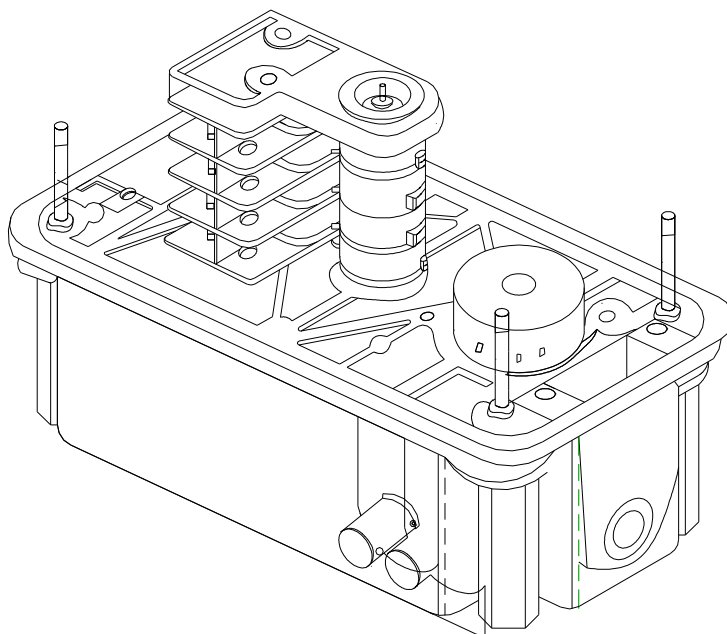

Fig. 10.2-1
10.2.2 Working Principle (See Fig. 10.2-1)